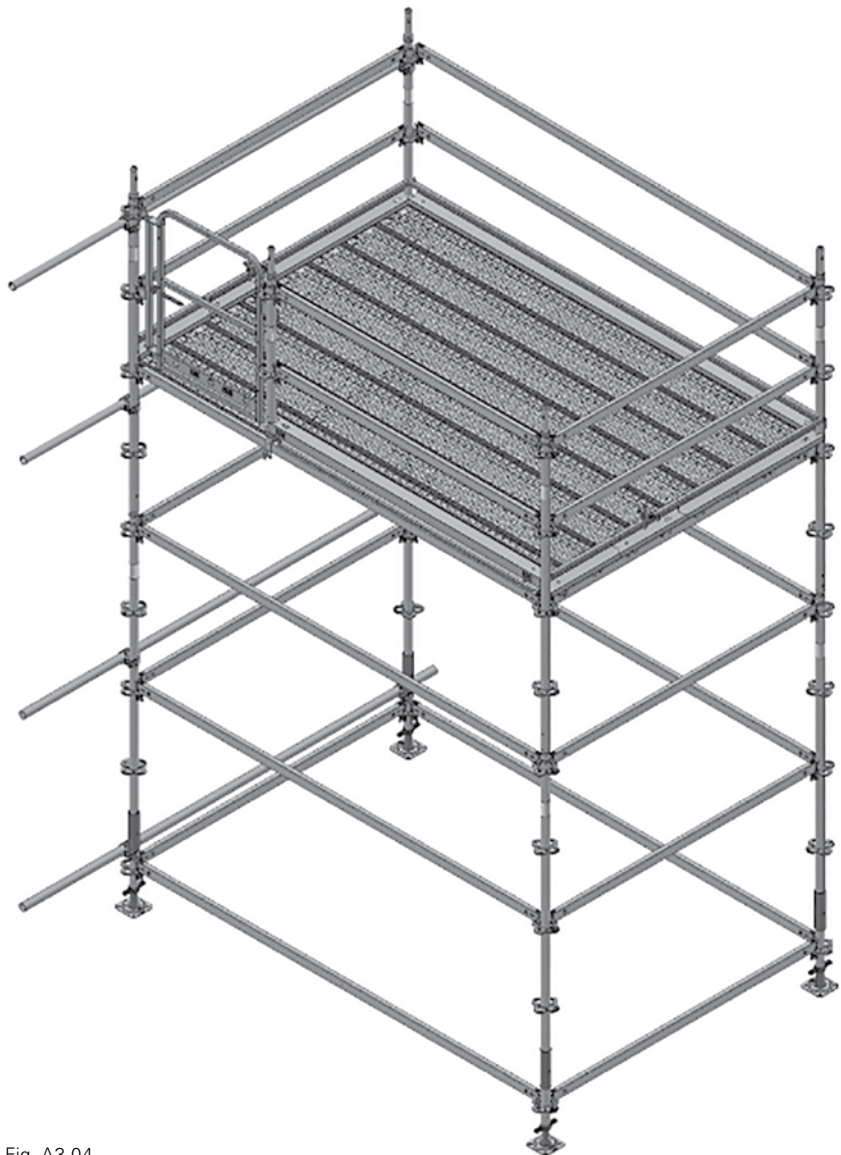

Fig. A3.04
1. Attach scaffold tubes with couplers to the scaffolding at the required distance from the Ladder Connectors. (Fig. A3.04)